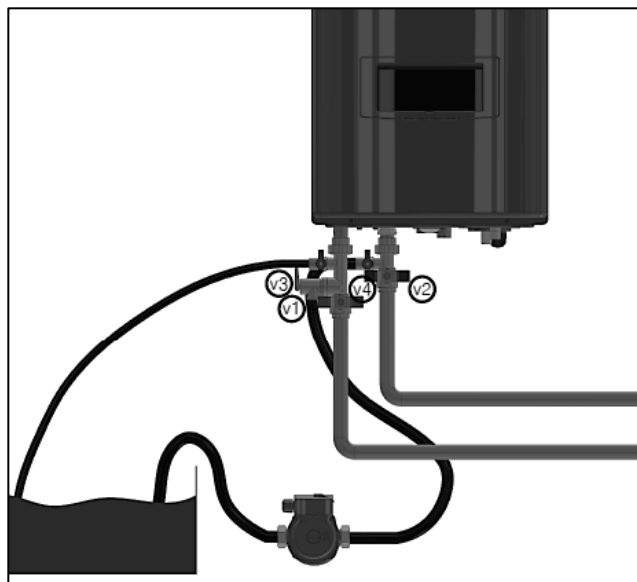

Figure 47 – Valve Detail
- Close the shutoff valves on both CH supply and CH return lines (V1 and V2). See Figure 47.